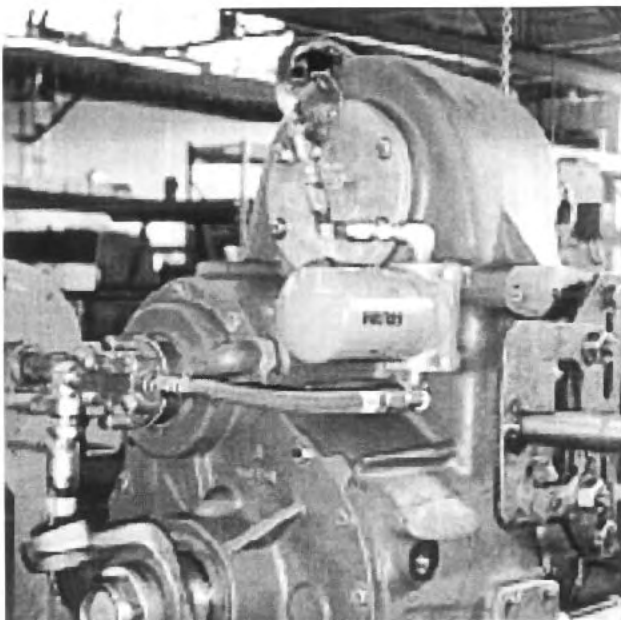

Fig. 2
4. If so equipped, remove the lubrication lines and filter. **Note the location and routing of the lines so that they may be correctly reinstalled.** See Fig. 2.